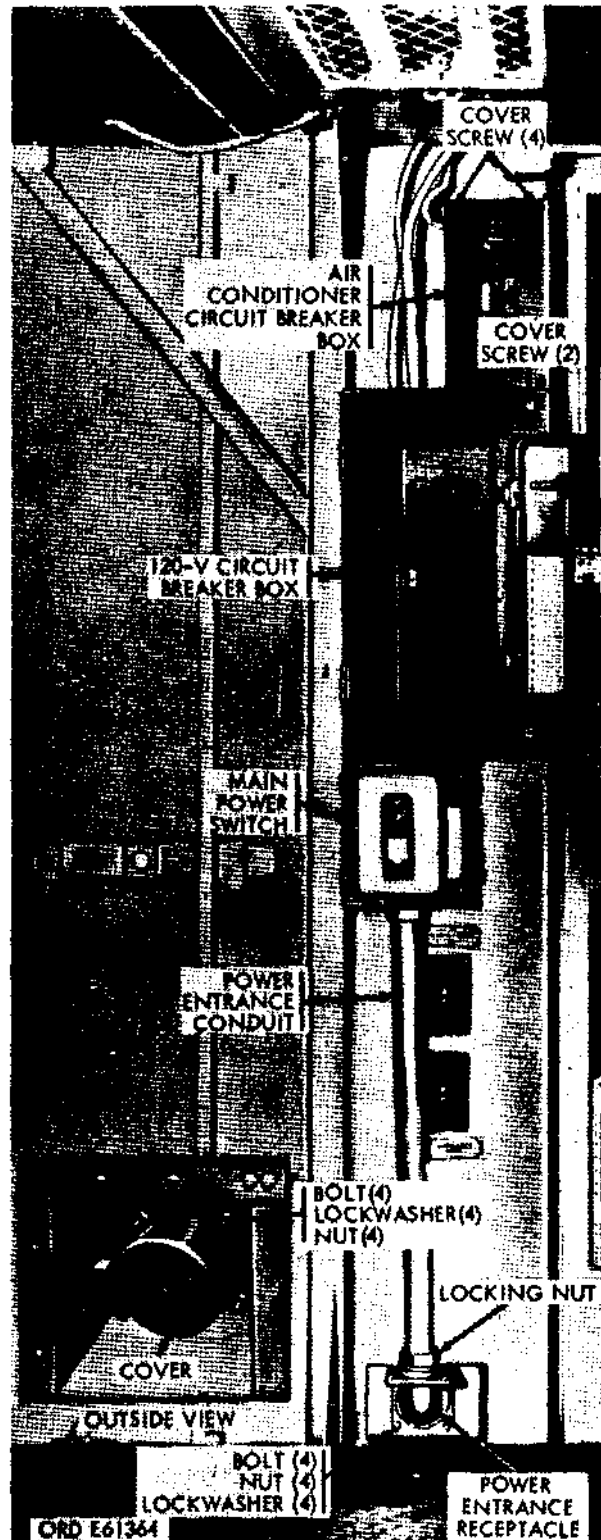

Figure 574.5 110/208-volt power entrance receptacle, control and switch boxes.
- (1) Disconnect all sources of electrical power to the van body.
- (2) Remove four screws securing the cover of the air conditioner circuit breaker box, and remove the cover (fig. 574.5).
- (3) Remove two screws and open the large door of the 110-volt circuit breaker box.
- (4) Open the door of the main power switch.
- (1) Disconnect all external power sources to the van body.
- (2) Disconnect the three entrance wires (black, white, and red) in the main power switch box (fig. 574.5). Disconnect the green entrance wire in the 120-volt circuit breaker box.
- (3) Remove four bolts, nuts and lockwashers securing the power entrance receptacle to the rear wall of the van body (fig. 574.5).
- (4) Unscrew the locking nut securing the power entrance conduit to the power entrance receptacle.
- (5) Remove the van interior and van exterior components of the power entrance receptacle, pulling the power entrance cable out of the power entrance conduit.